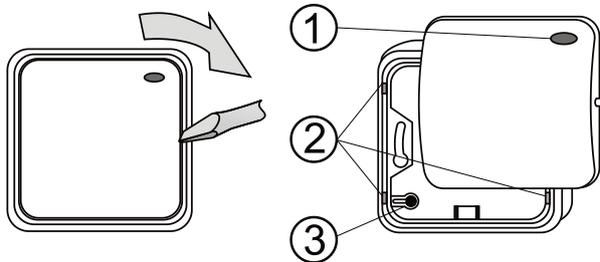

Figure 1 – LED indicator visor, 2 – Base plastic tabs, 3 – Permanent magnet
1. Open the movable cover (by a screwdriver from the side, see figure 1).
2. Release the bottom plastic base by pressing the 4 tabs in the corners (2).
4. Assemble the PCB part into its plastic frame. If the plastic base is used, then it is necessary to move the permanent magnet (3) of the tamper contact from the plastic frame which holds the PCB to the receptacle on the plastic base.
5. Connect the BUS cable to the BUS terminals (7).
- a. When the button is switched on, the yellow LED (5) flashes and indicates that the button has not been enrolled into the system.